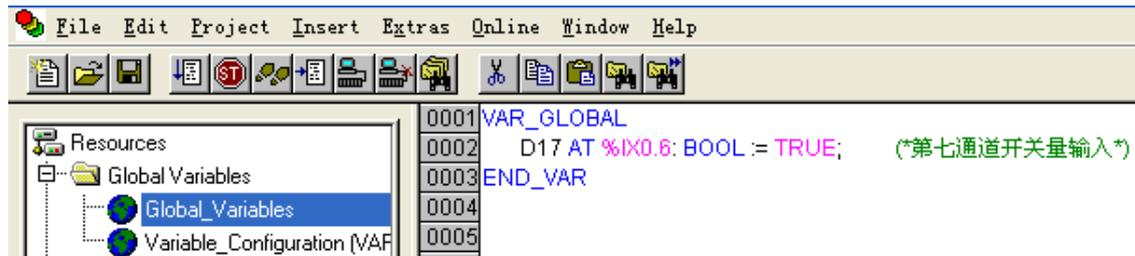

Figure 4-4-2 Code of variable declaration
The standard data types and the range of the variables supported by PowerPro are shown in figure 4-4-2.
- **Symbol list:** the symbol list is only available when “VAR_GLOBAL” is selected in the “Type” field. The default setting of which is “Global_Variables”. In the declaration of a global variable, a “Global_Variables” will appear in the “Global Variables” folder of the “Resources” tab. Double click on the “Global_Variables”, then all declared global variables will be displayed, as shown in figure 4-4-2.